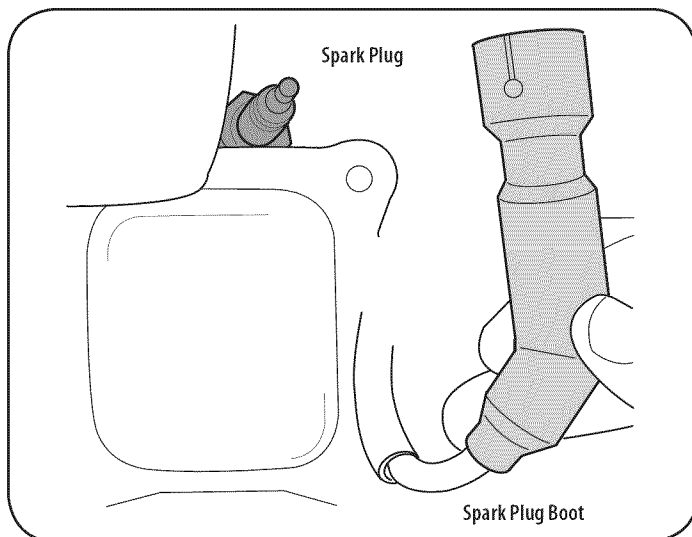

Figure 14
1. Remove the spark plug boot and use a spark plug wrench to remove the plug. See Figure 14.